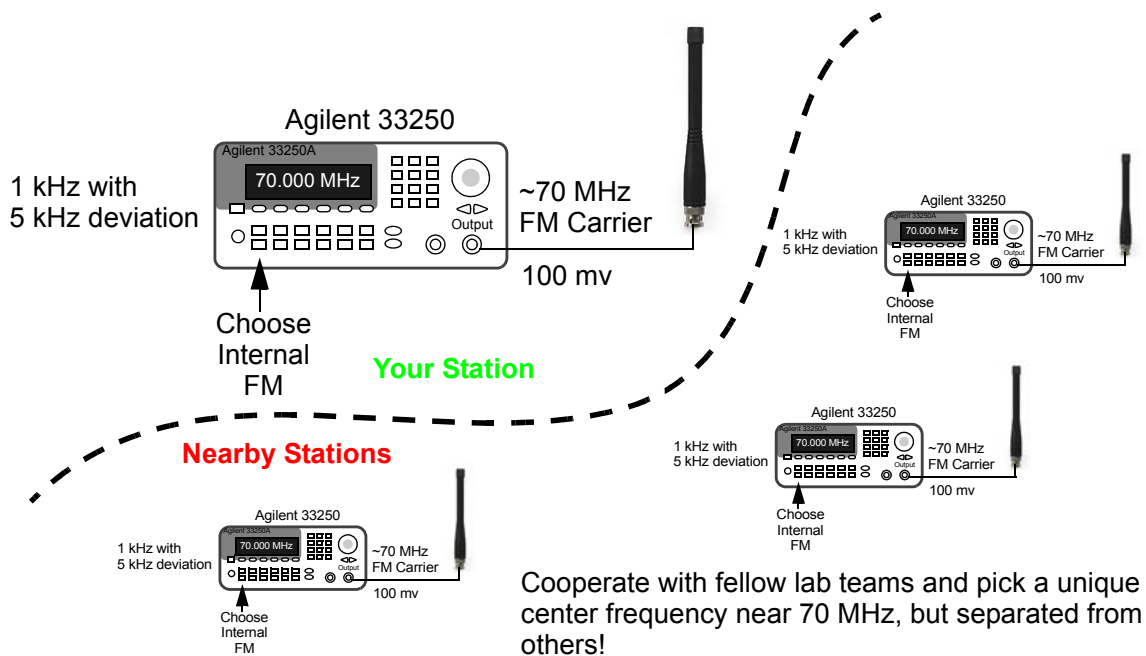

Figure 11: Transmitting an FM test signal using the Agilent 33250.
3. Set up a custom transmitter at 70 MHz using the Agilent 33250A. For details see Figure 11. Experiment with different modulation types. You will have to choose your carrier frequency near 70 MHz, yet avoid the transmission frequencies used by neighboring lab benches. Interference from your neighbors is real, and maybe will make you appreciate why the Federal Communications Commission (FCC) exists.